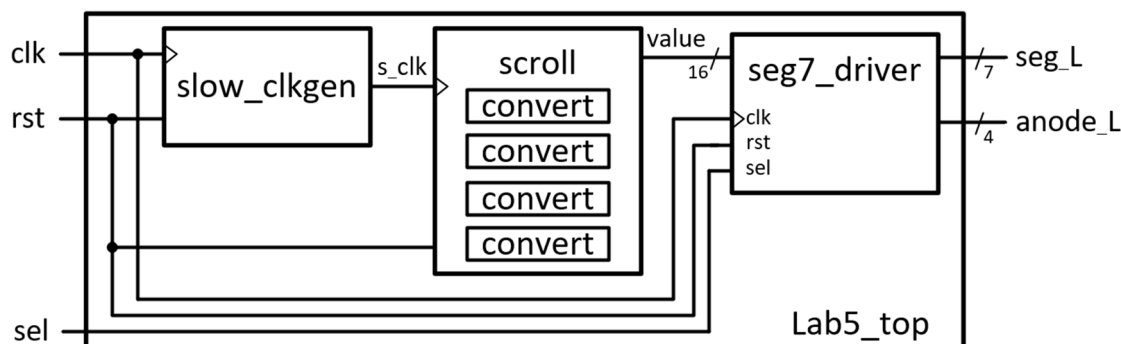

Figure 1
7. Lastly, open *Lab5\_top.v* and *Lab5\_top.xdc*. *Lab5\_top.v* implements the system shown in figure 1. You still need to instantiate the *slow\_clkgen* and *scroll* modules, as well as implement the *scroll* module which itself instantiates four *convert* modules. You will design the *scroll* and *convert* modules in part 2. Next look at *Lab5\_top.xdc*. It maps *clk*, *rst*, *seg\_L* and *anode\_L* to the FPGA pins corresponding to the off-FPGA components we are using. It is very similar to what you used in Lab 4.
7. Lastly, open *Lab5\_top.v* and instantiate the missing *slow\_clkgen* and *scroll* modules as per figure 1.